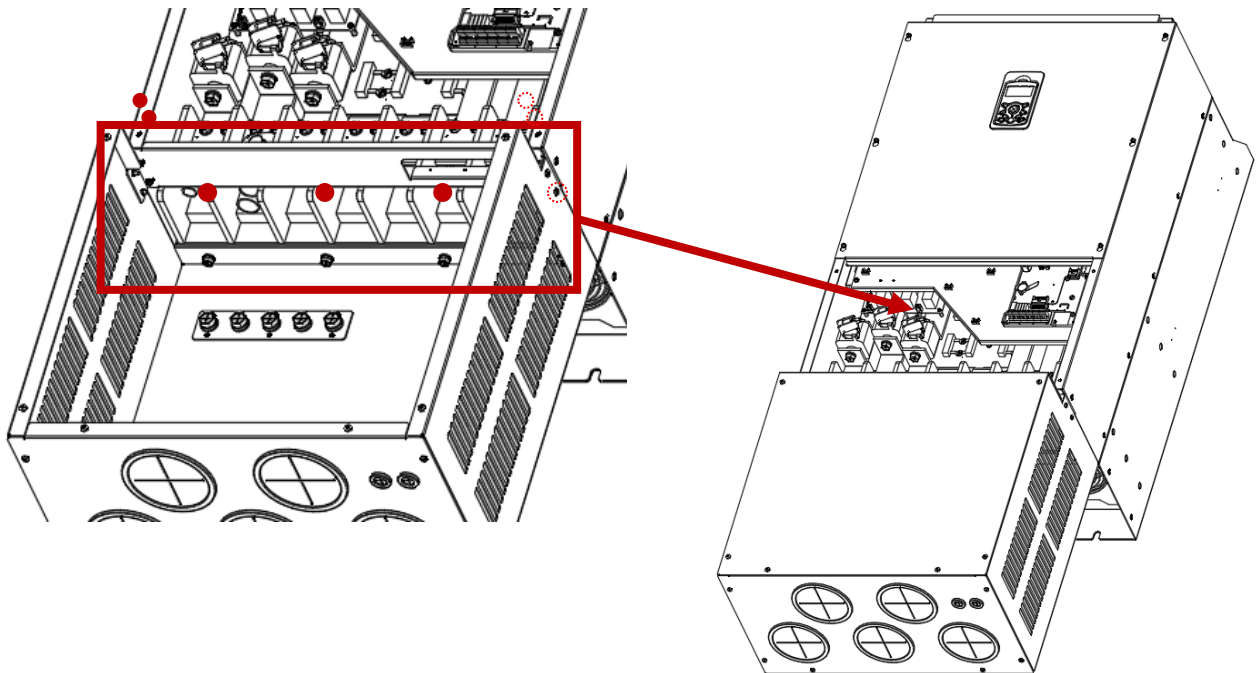

Figure 14. Install Conduit Option
- ② Install screws in locations shown in Figure 14.